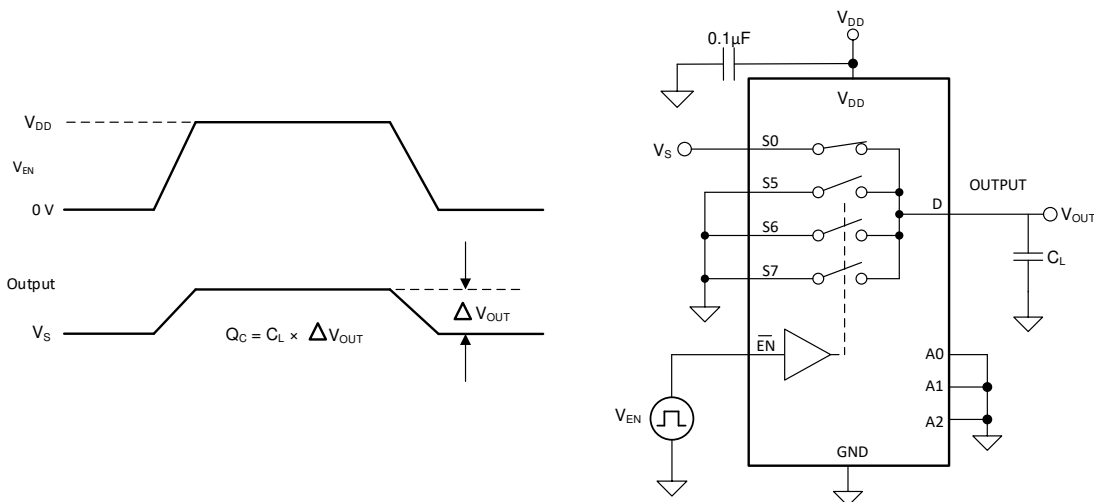

Figure 8-7. Charge-Injection Measurement Setup
The TMUX1308 and TMUX1309 device have a transmission-gate topology. Any mismatch in capacitance between the NMOS and PMOS transistors results in a charge injected into the drain or source during the falling or rising edge of the gate signal. The amount of charge injected into the source or drain of the device is known as charge injection, and is denoted by the symbol Q_C . Figure 8-7 shows the setup used to measure charge injection from source (Sx) to drain (D).